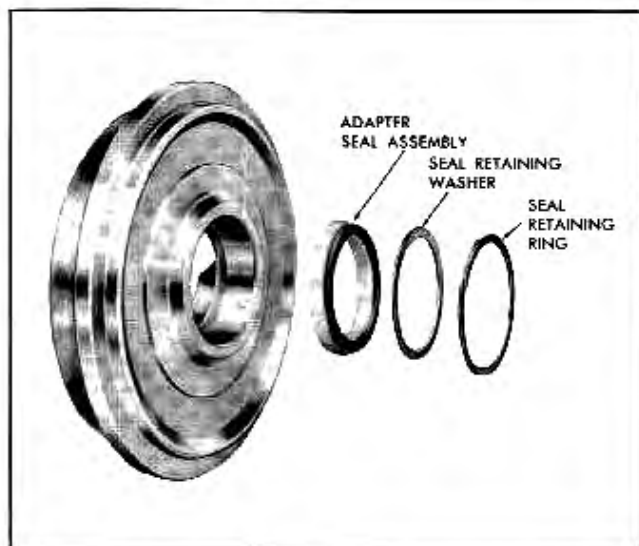

Fig. 9-37 Adapter Assembly—Exploded View
4. Remove adapter seal retaining ring, retaining washer, and seal (Fig. 9-37).